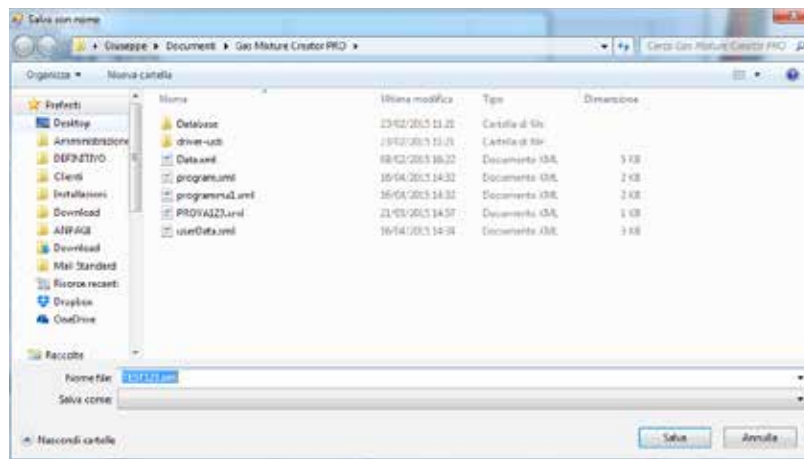

Fig. 32
3. Once you have created your “program job” you can **save** it in an external file with your desired name (i.e. TEST123). (Fig. 32)